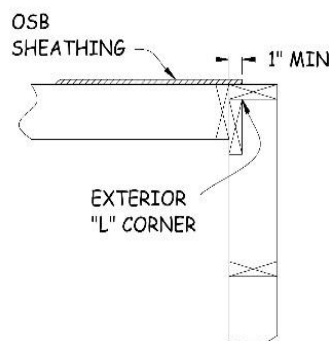

Figure 23-1. Exterior L-Corner.
4. At each end of the long walls, lay out an L-corner with two 2x4 studs made up of the normal 2x4 end stud plus an extra 2x4 stud perpendicular to the end stud on the interior side of the wall (see Figure 23-1). Mark the “L” as “Corner Down” to specify that the extra 2x4 will lay face down on the deck as the wall is being built. This will place the existing 2x4 stud facing the end of the adjoining short wall forming an inside corner.